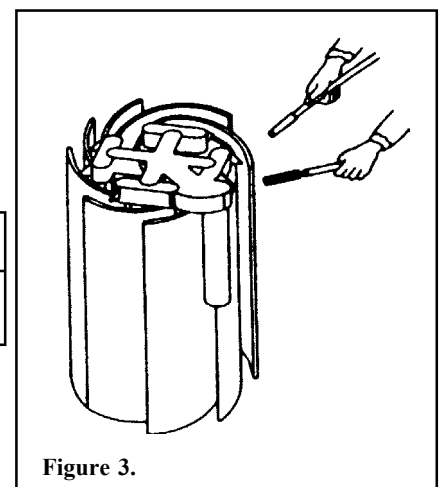

Figure 3.
7. Hose down element assembly and clean with bottle brush (Figure 3). Use detergent solution or filter cleanser available from a pool service store.